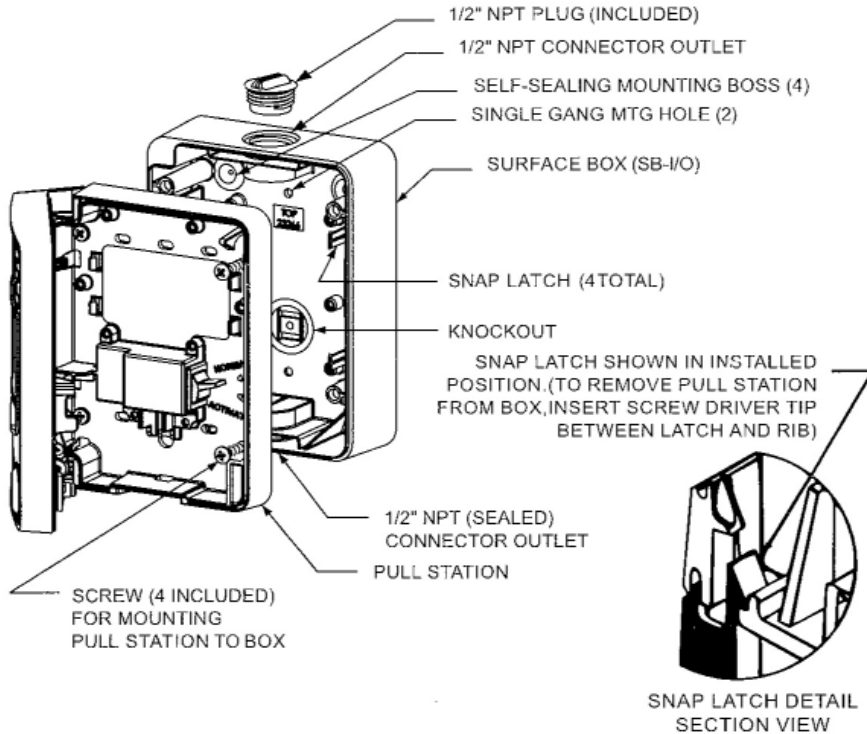

Figure 2
2. Open the Pull Station door using the key provided. This will not cause an alarm. Separate the Pull Station front from the back by releasing the snap latches as shown in figure 2. Remove the battery and dispose of properly.
7. If the Pull Station does not function for alarm operation as described in item 6 then start over at step 2. If it still doesn't operate correctly then replace the entire unit.